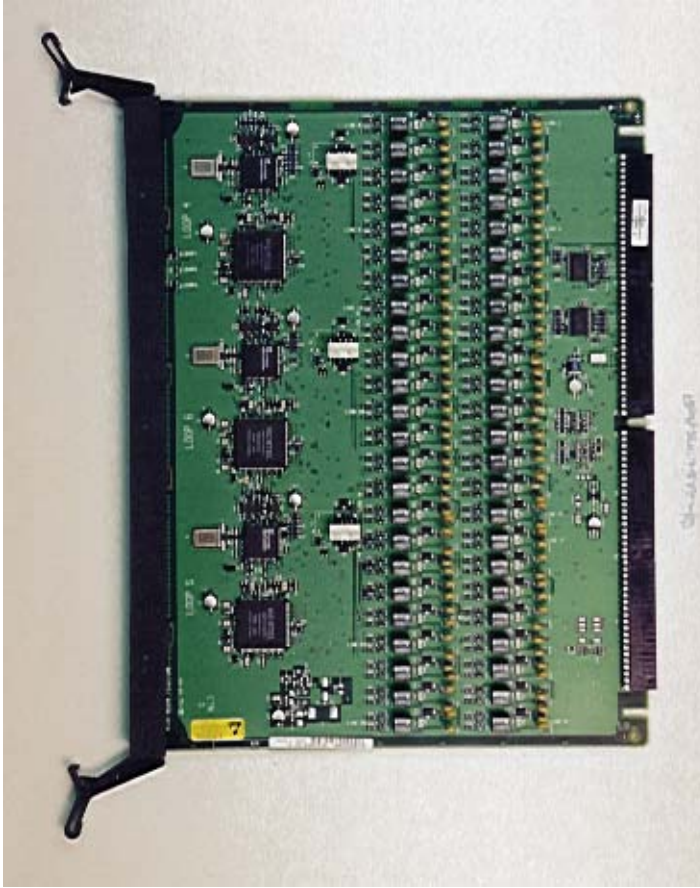

Figure 102: NTDK16 DLC
The NTDK16 digital line card is equipped with 48 identical units. Each unit provides a multiplexed voice, data, and signaling path to and from digital apparatus over a 2-wire full duplex 512 kHz time compression multiplexed (TCM) digital link. Each digital telephone and associated data terminal is assigned a separate terminal number (TN) in the system database, for a total of 96 addressable ports per card. Refer to Figure 102: NTDK16 DLC on page 371.